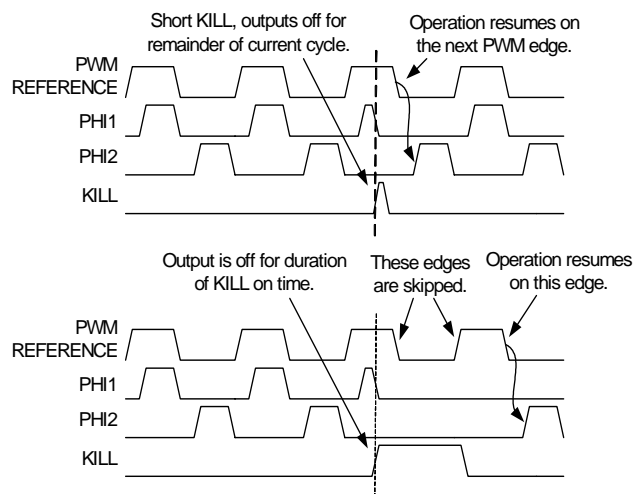

Figure 17-12. Synchronous Restart KILL Mode
- 1. Synchronous Restart Mode:** When KILL is asserted high internal state is held in reset and the initial dead band period is reloaded into the counter. While KILL is held high, incoming PWM reference edges are ignored. When KILL is negated, the next incoming PWM reference edge restarts dead band processing. See Figure 17-12.